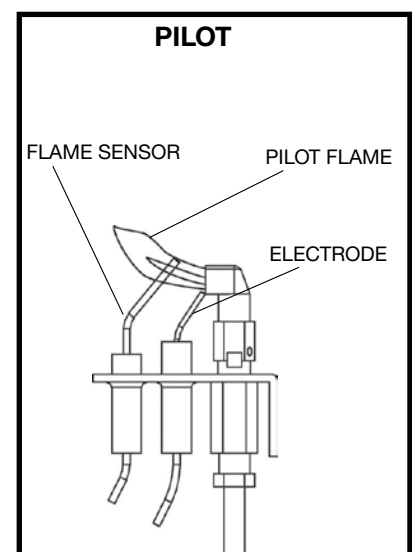

Figure 68: Pilot assembly.
- b) Check the pilot system for proper flame size and operation. Clean pilot free of soot, dust or any other deposits (See Figure 68).